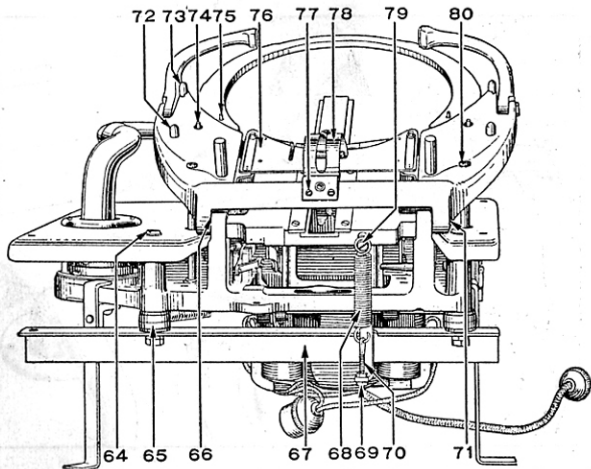

Fig. 11—Automatic Mechanism Back View
- c. Record guide pins 74 or 75, Fig. 11, not fitting properly in holes of lift ring. This fit should allow a free vertical motion of the pins, but a minimum side motion.
**9. LIFT RING RISES TOO SLOWLY**—If the lift ring rises too slowly with a resulting strain on the mechanism, or if it descends too fast, increase the tension of the spring 68, Fig. 11, in the back of the mechanism in the following manner:
**10. LIFT RING RISES TOO FAST**—If the lift ring rises too fast, if it descends too slowly, or if it touches the under side of the record on the turntable during playing, decrease the tension of the spring 68, Fig. 11, in the following manner: